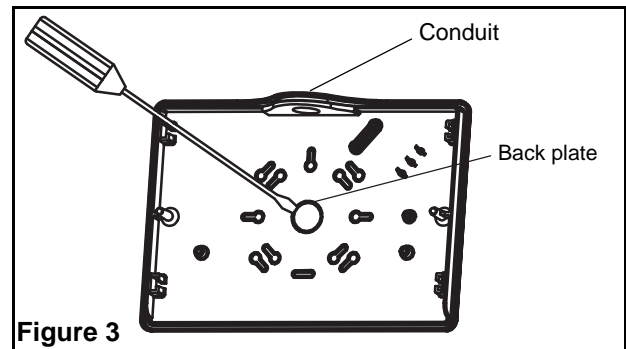

Figure 3
2. Remove the appropriate knockouts in the back plate (see figure 3).
1. Open front cover and remove the 1/2 inch NPT plug on the top flange of the fixture (see figure 3).